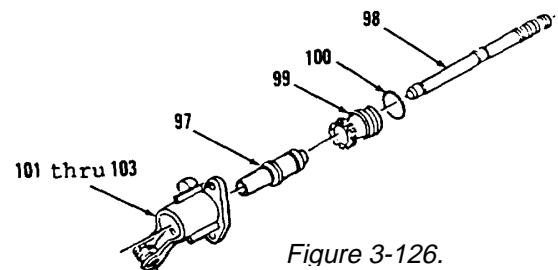
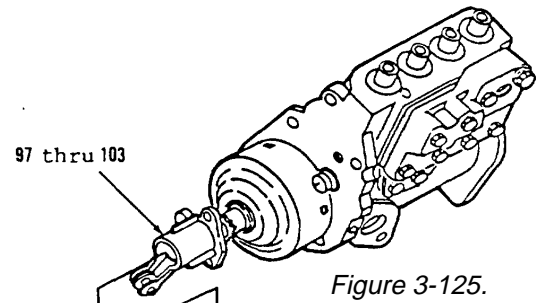

Figure 3-126.
Figure 3-125.
24. Install new preformed packing (100) on sleeve (99, Figure 3-126).
25. Using clean grease, lubricate sleeve (99), piston (98) and valve (97) and install in items 103 thru 101 as an assembly.
26. Install ring (96) in groove in center of items 103 thru 97 (Figure 3-125).
27. Install sleeve (95), spring (94), seat (93) and ring (92). Engage sleeve (95) with lever (102).